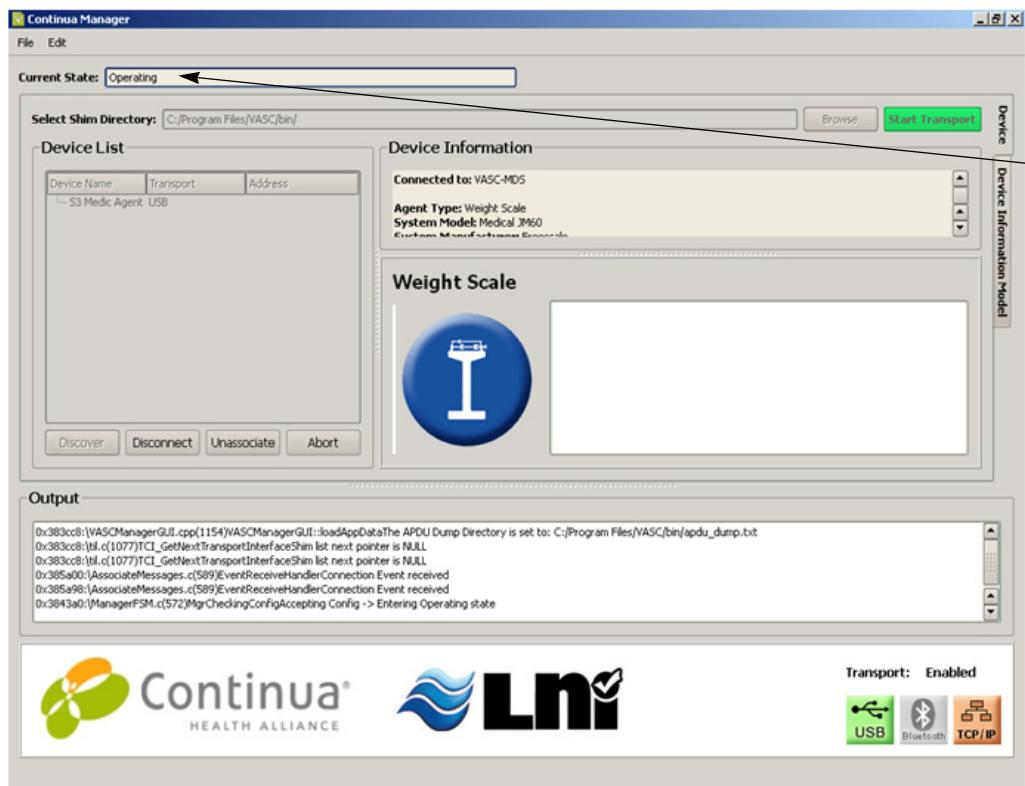

Figure C-7. Host entering operating state
6. The Continua Manager now enters the Operating State using default specialization (weigh scale). The Continua application window appears as shown in Figure C-7.